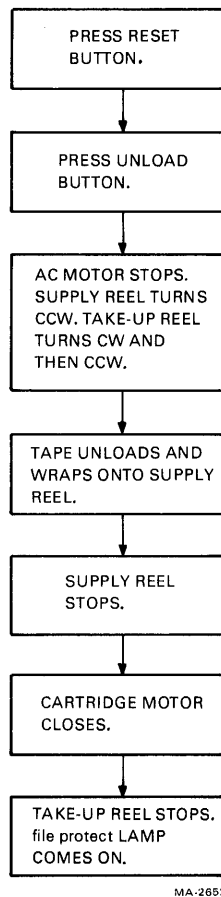

Figure 2-19 Unload Sequence
**2.5.1.6 Unload Sequence** – Follow the instructions and check for the events specified in Figure 2-19.